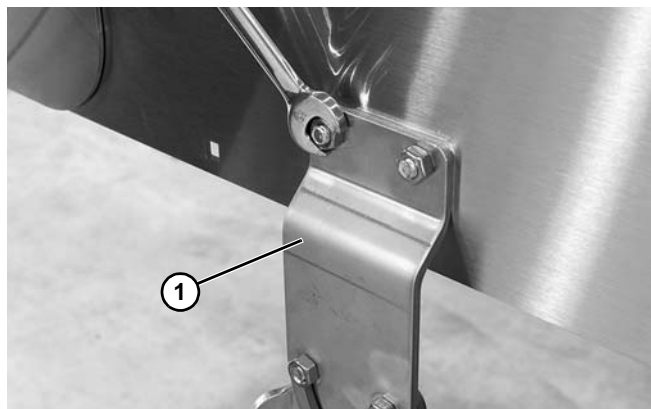

Figure 7
2. Attach the stands (**Figure 7, item 1**) to the frame. Tighten to 14-16 ft-lbs (19-22 Nm).